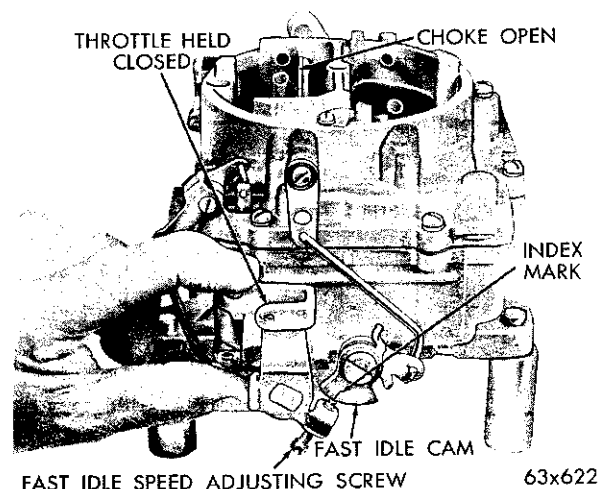

Fig. 21—Fast Idle Cam Indexing
(1) Open the throttle valves to wide open position. Close the choke valve tightly and then close the throttle valves. This will position the fast idle cam to fast idle. The index mark on the cam should split the center of the fast idle adjusting screw, as shown in Figure 21.
(2) If an adjustment is necessary, bend the fast idle connector rod at the angle, using Tool T109-213, until the index mark on the cam indexes the fast idle adjusting screw.